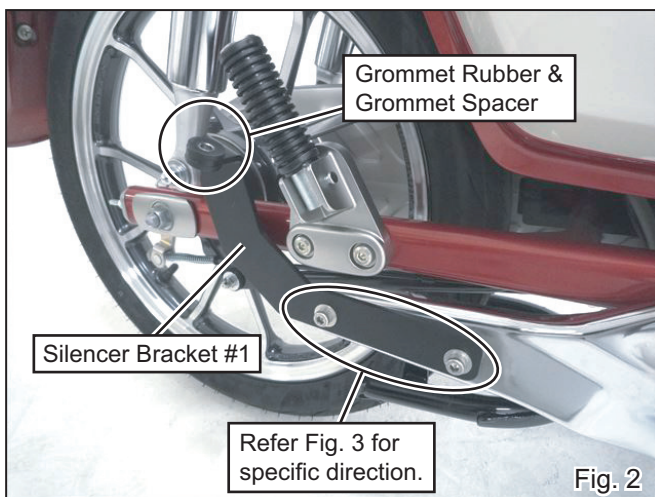

Fig. 2
- 3) Install Grommet Rubber and Grommet Spacer on Silencer Bracket #1. (See Fig 2)
- 4) Mount Silencer Bracket #1 on the vehicle with 2 of each Cap Bolt M8x20, Washer M8x20 and stock nut. (See Fig 2 & 3) Tighten and torque 2 of Cap Bolt M8x20.